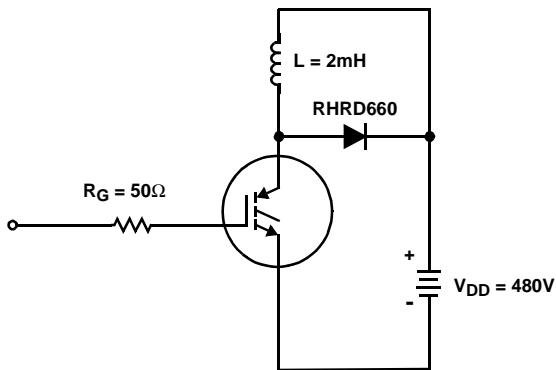

FIGURE 17. INDUCTIVE SWITCHING TEST CIRCUIT
- Values for two Turn-On loss conditions are shown for the convenience of the circuit designer. E_{ON1} is the Turn-On loss of the IGBT only. E_{ON2} is the Turn-On loss when a typical diode is used in the test circuit and the diode is at the same T_J as the IGBT. The diode type is specified in Figure 17.